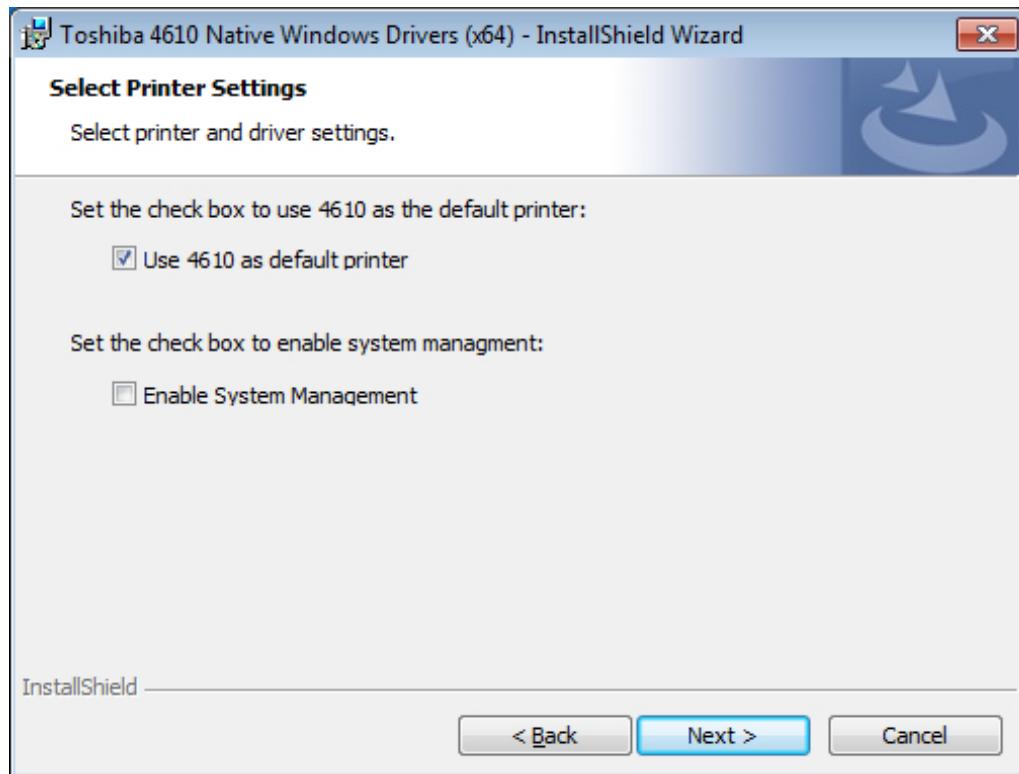

Figure 17. Select Printer Settings
6. Select the printer setting required and click **Next** (see Figure 17) .